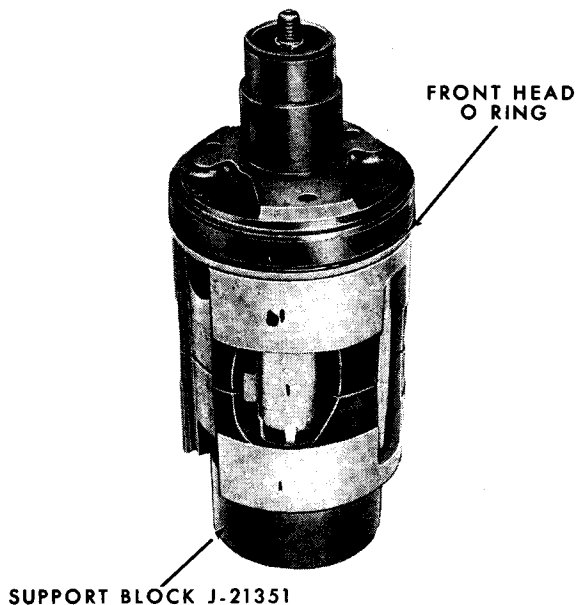

Figure 131—Front Head O-Ring Installed
8. Generously lubricate new O-ring and angled groove at lower edge of front head casting with 525 viscosity refrigerant oil and install new O-ring into groove (figure 131).